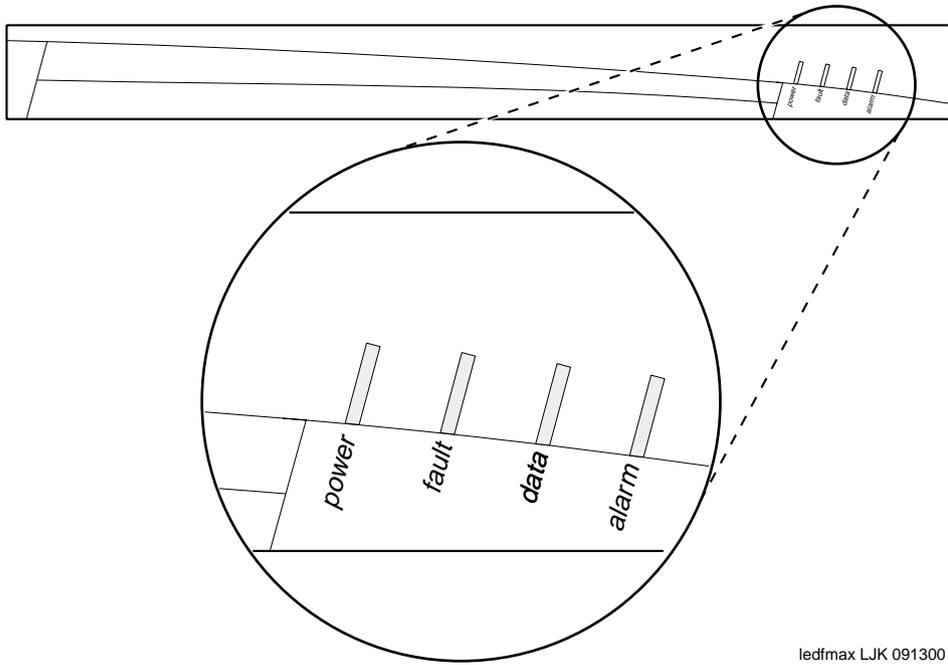

Figure 26. Avaya R300 Front-Panel Lights
10. Observe LEDs on the front of the Avaya R300 to make sure everything is working properly (see Figure 26 on page 68).
Figure 26 illustrates the Avaya R300 front-panel lights, and Table 12 is the key for interpreting these lights.